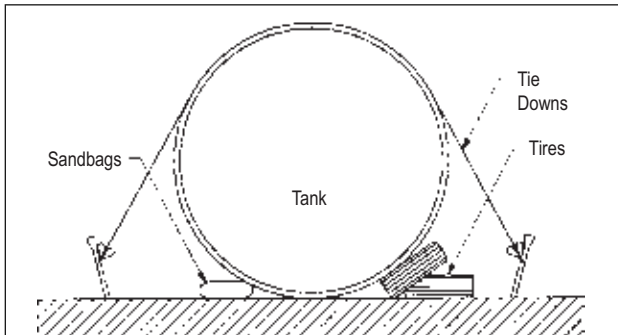

FIGURE 2-3
2.1.4. Whenever a tank is temporarily placed aboveground at the site, chock it in place to prevent rolling. (See FIGURE 2-3.) Tie the tank down if high winds are expected.